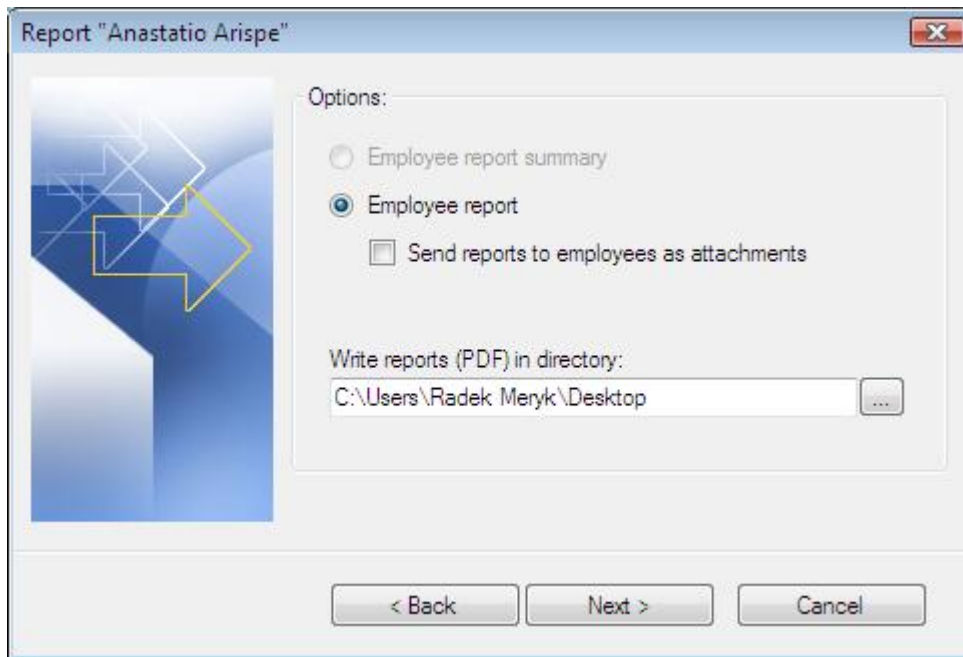

Figure 26. Selecting destination directory for generating reports
Step 3. Select destination directory for PDF files containing reports generated (Figure 26). In addition, you can select option for sending reports to employees as e-mail attachments.